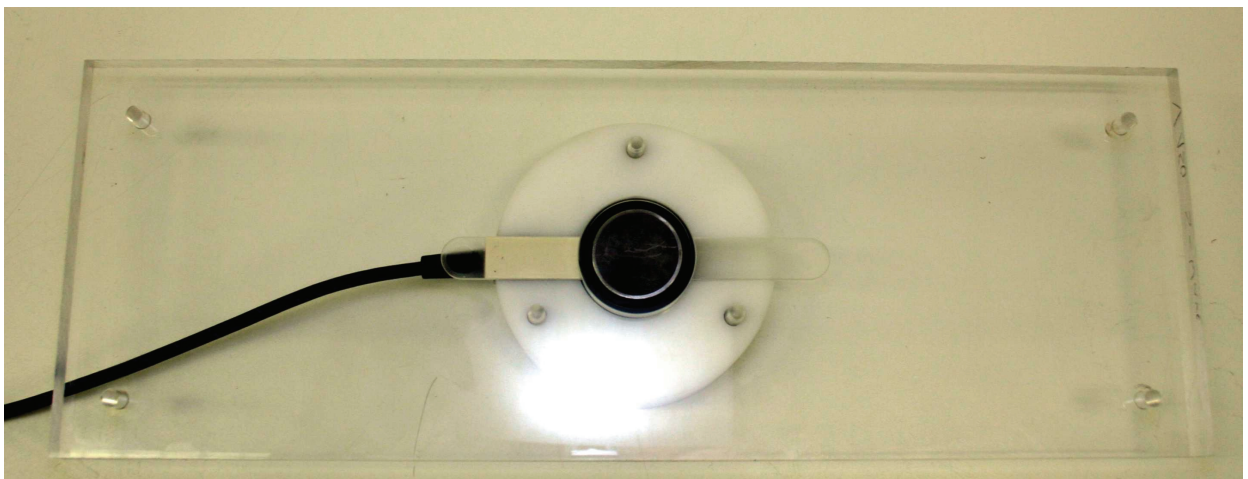

Fig. 7: Sidewall of test container with implemented sensor.
1. Unscrew the test container and clean up the sidewall and the sensor surface with water and a fat-dissolving agent (agent should not dissolve PMMA) (see Fig. 7).